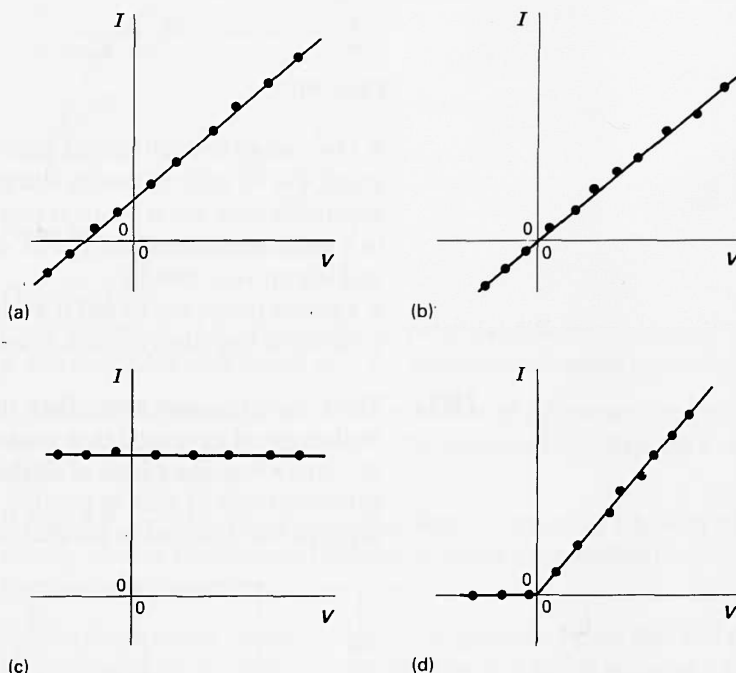

Figure B60
- a** Which of the graphs of experimental results in figure B60 could be taken as agreeing with the Law as stated?
4 Over small enough ranges of current, even a curved current–p.d. graph will be approximately straight. So it would be better to say that, experimentally, Ohm’s Law is true over small ranges of current only, to a good approximation. (Look at figures B60(a) and (b) before making up your mind.)